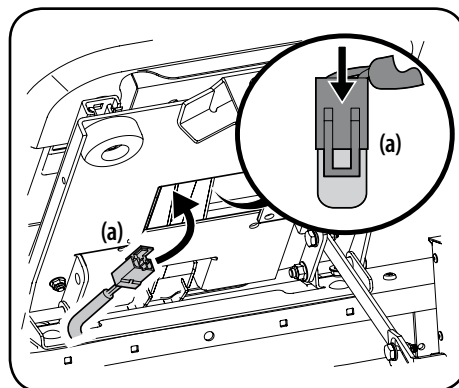

Figure 2-8
- Insert the wiring harness (a) into the bottom of the seat as shown in Figure 2-8.